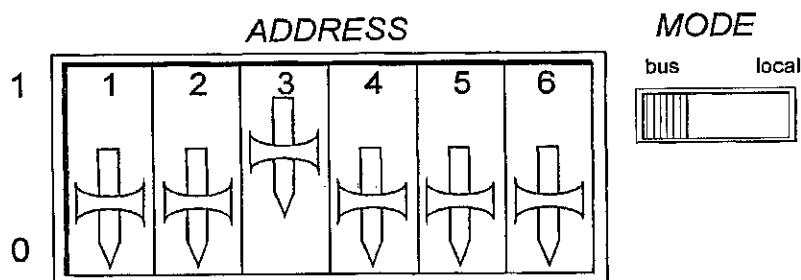

Fig 5 AP60-50 PSU Mode and GPIB Address Settings
- 9.3 On the rear panel, check that the MODE switch is set to Bus and the GPIB address is set to '4' (Fig 5).